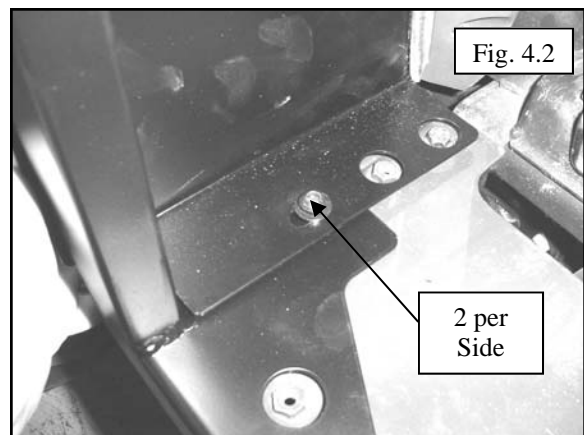
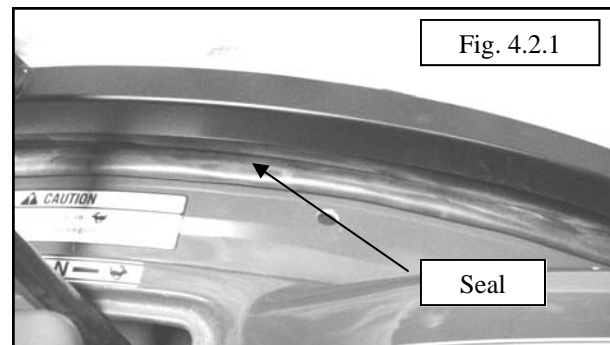

Fig. 4.2
Fig. 4.2.1
4.2 Per figure 4.2, position bottom plate of side frame assembly under cowl and attach to tractor floor with (2) M8 x 25mm button head bolts and flat washers, (into threaded holes where bolts were removed in step 1.1) Make sure bulb seal from Step 3.3 is positioned to point in toward the center of the tractor along the fender and out, toward the rear of the tractor along the back edge of the rear leg. Reference figure 4.2.1 and 4.1